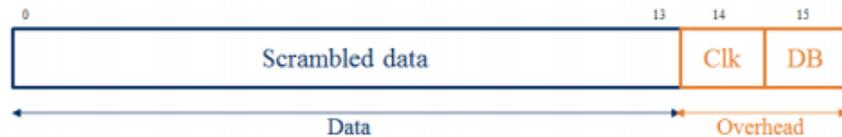

Figure 3 ESIstream basic data frame.
Now a quick look at the nuts and bolts of ESIstream. ESIstream uses a 14b/16b data encoding algorithm, least significant bit first and supports lane rates in excess of 13 Gbps. It suits 12- and 14-bit resolution converters. The protocol uses a linear feedback shift register scrambling process and adds both a disparity and clock synchronization bits (2 bit overhead) to each data word as shown in figure 3. In this way, its coding efficiency of 87.5% is slightly better than for JESD204B (an 8b/10bit coded stream). The disparity bit (DB) ensures DC balance across the data link whilst the CLK bit is toggled to enable synchronization monitoring.